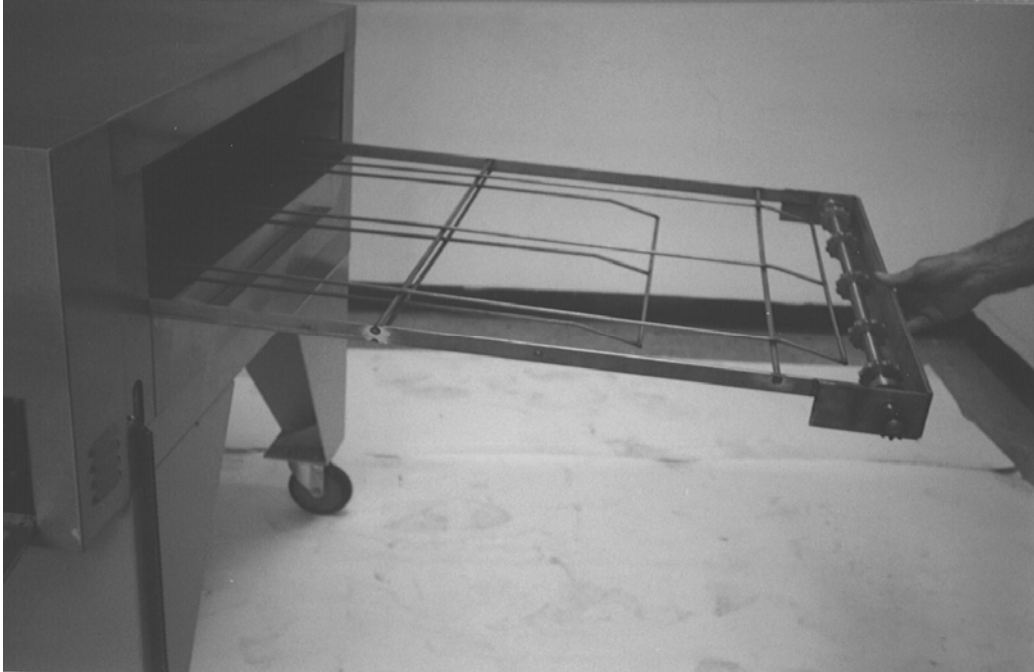

Figure 3
3. Slide right conveyor belt support (with sprocket on end of shaft) into the support tracks. Sprocket must be located next to the control box after being pushed into the ovens. Refer to Figure 3.